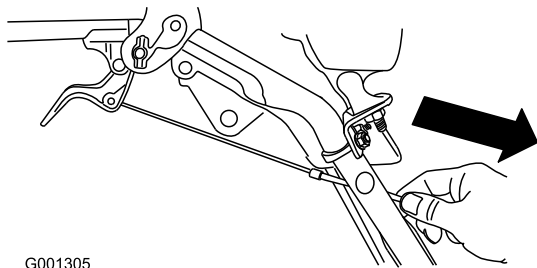

Figure 9
4. Pull the cable jacket down gently until the wheel-clutch lever is down and the slack is out of the cable, then tighten the cable clamp nut securely (Figure 9).